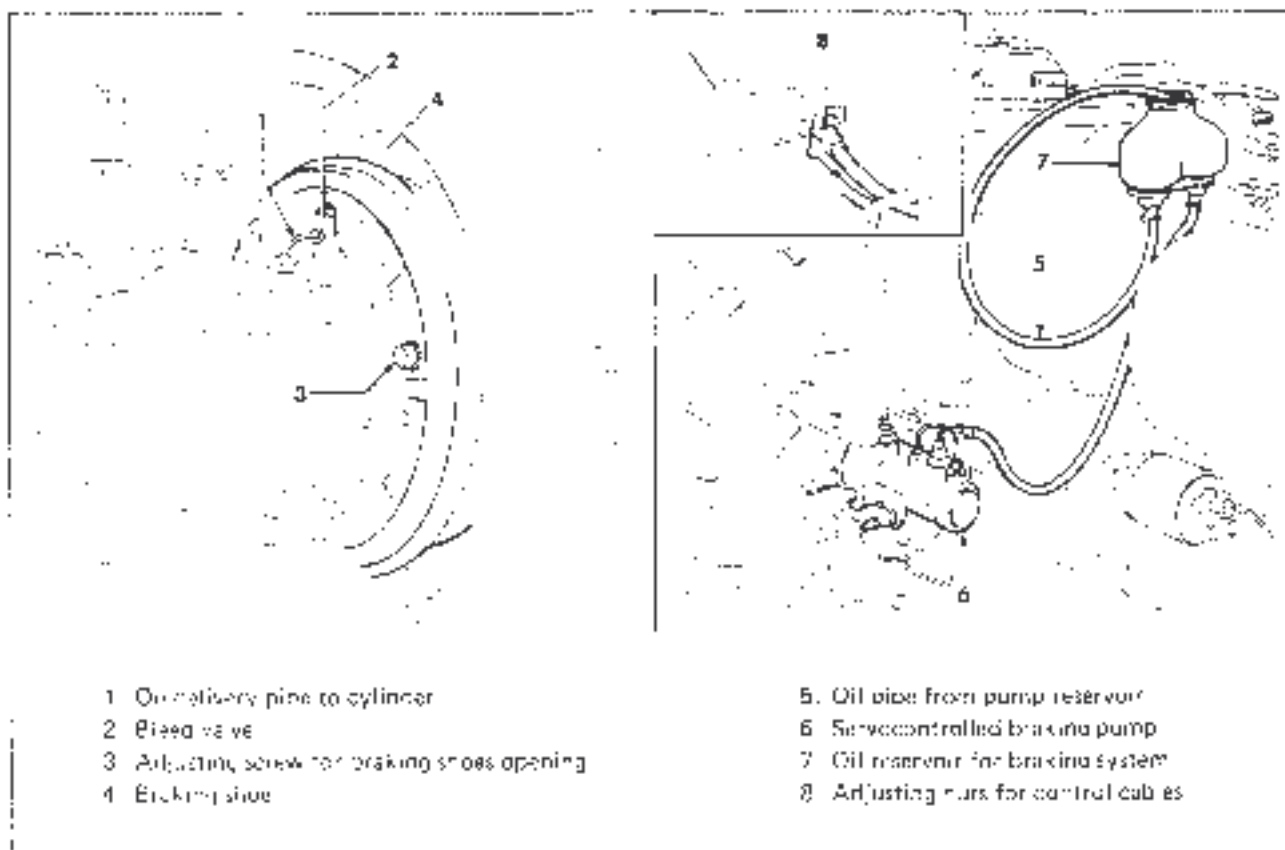

Figure 26. Bleeding of brake system and brake adjustment
1. **SYSTEM INSPECTION:** if the braking action is found to be delayed, bleed the system through bleed valves located on the brake cylinders (fig. 26, item 2). When bleeding is complete top off oil level in reservoir by adding new oil.
2. **BRAKES ADJUSTMENT:** if the idle stroke of pedals is found to be excessive, adjust the brake shoes as follows (see fig. 26):
- turn screw (3) to cause internal cams to get in touch with jaws;
Parking brake (see fig. 26)